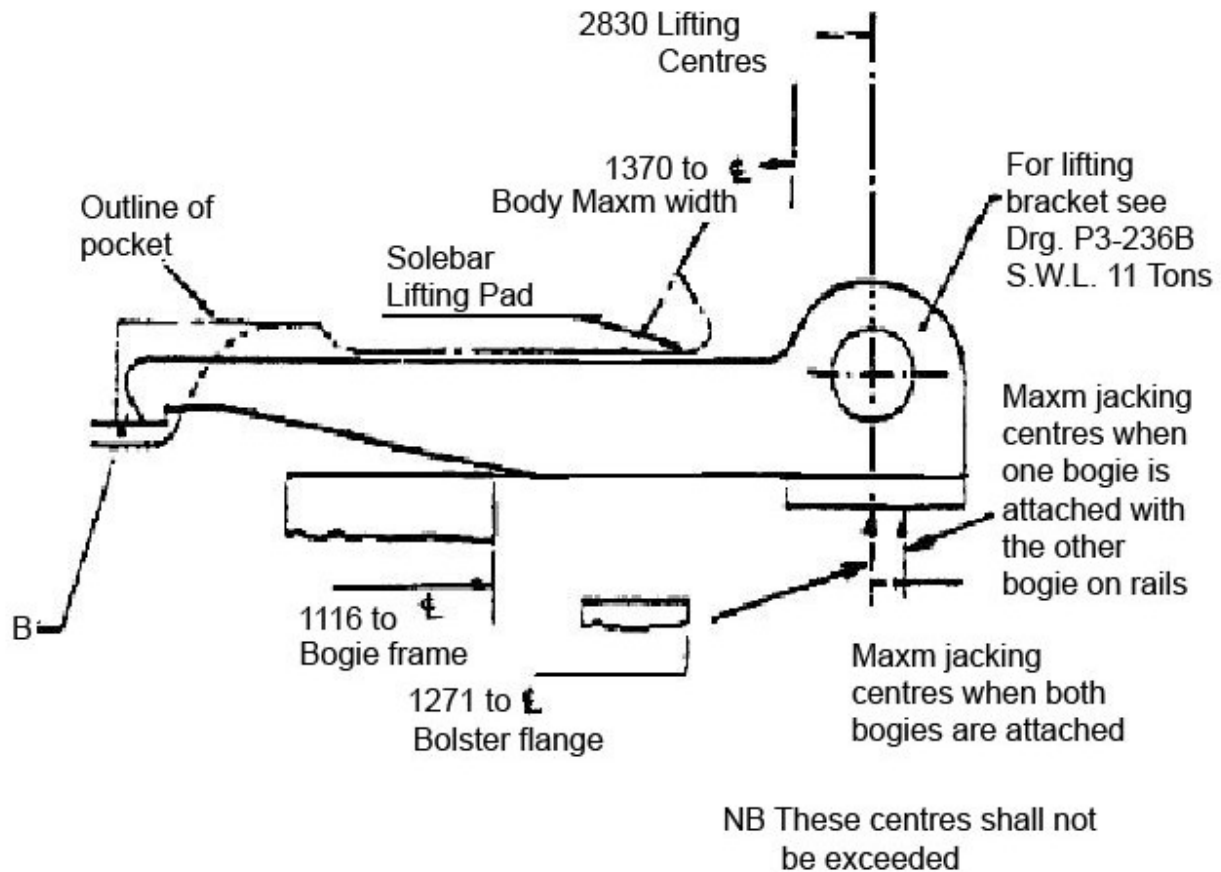

Figure 5: Pocket for Lifting Bracket
- 2.2 At Location B there is a pocket in or under the underframe bolster into which a lifting bracket can be inserted as shown in Figure 5. This was provided for use with Derrick type cranes using a spreader beam of at least 9'-6" lifting centres, (for details of the lifting bracket see Reference Drawings item 3).
3.2 **Location B** - The underside of the lifting bracket referred to in 2.2 can be used for jacking. Figure 5 illustrates and gives the jacking centres.